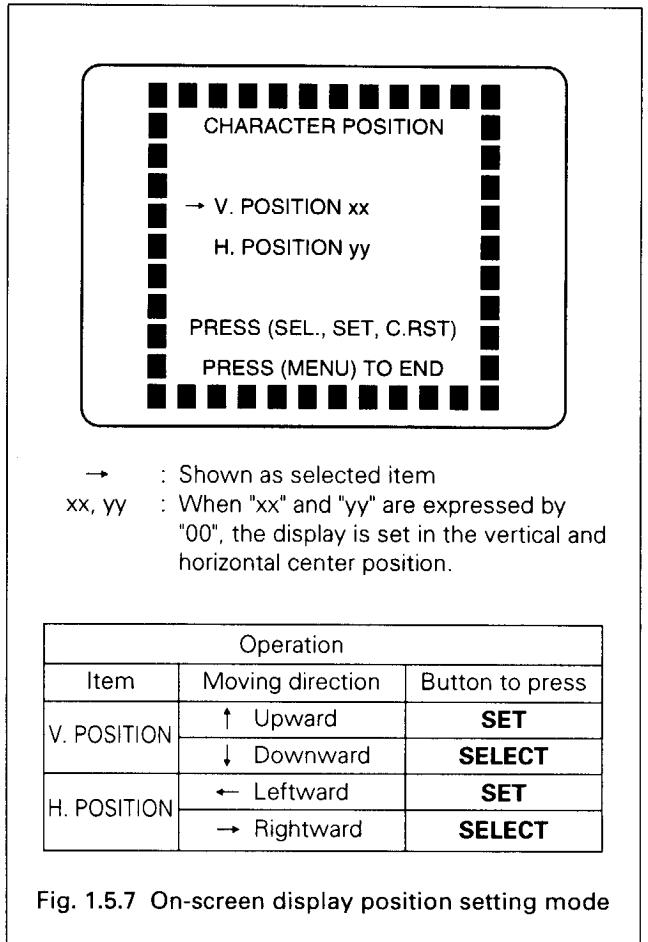

Fig. 1.5.7 On-screen display position setting mode
7. Press the **SELECT** button to move the on-screen display (the whole display shown in Fig. 1.5.7) downwards or rightwards.
8. Press the **SET** button to move the on-screen display (the whole display shown in Fig. 1.5.7) upwards or leftwards.